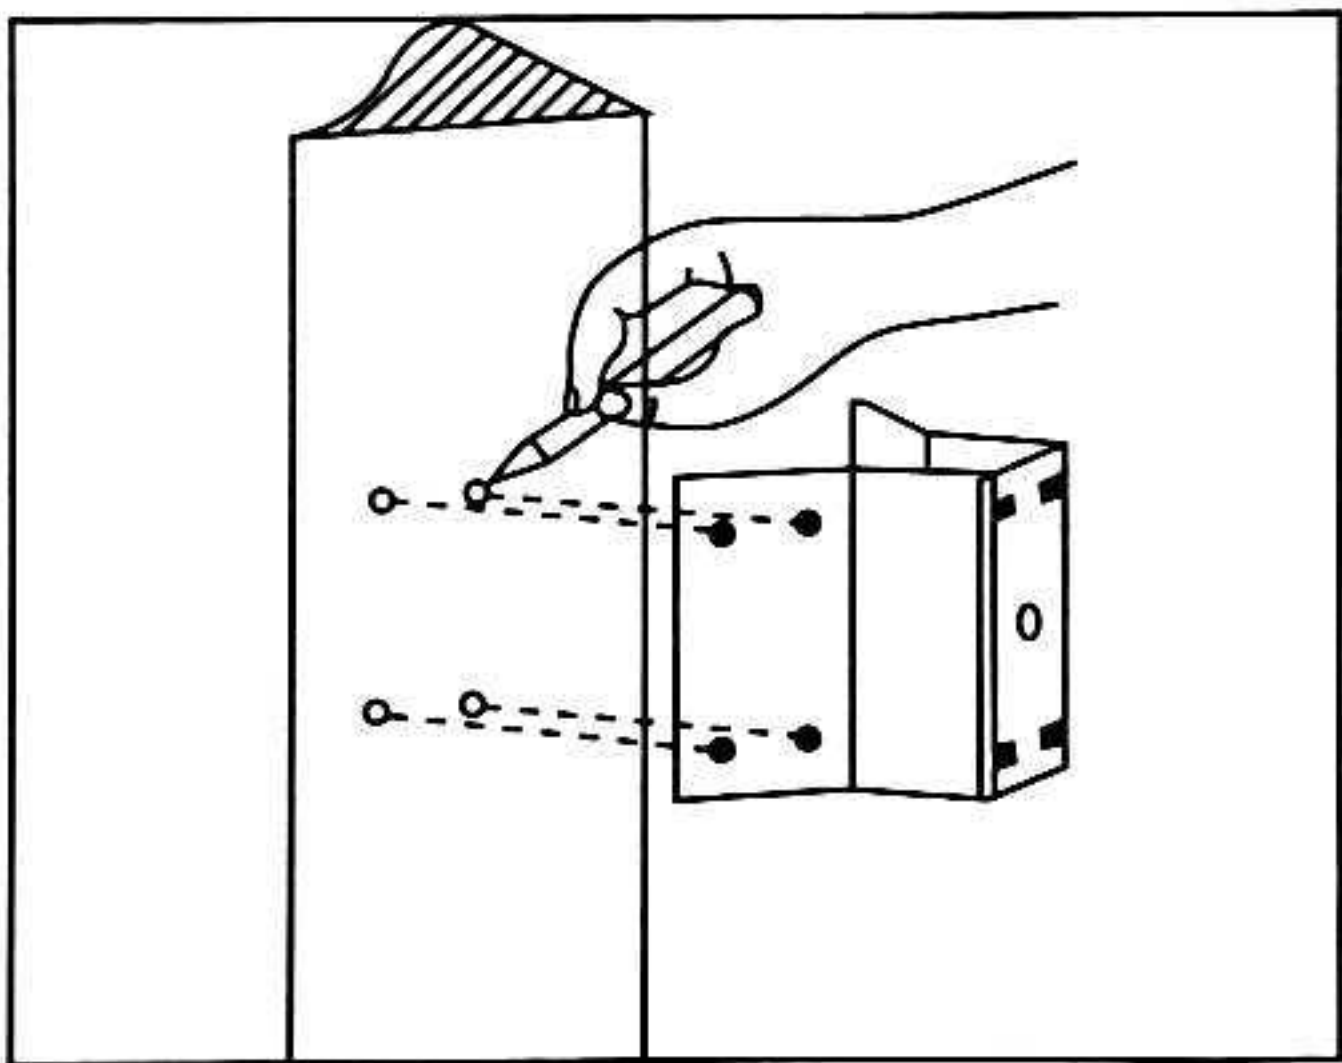

Fig 12
- a. As shown in fig 12, with the installation holes in the corner mounted attachment as pattern, draw punched locations on the wall with an angle of 90° and punch to install expansion bolt.